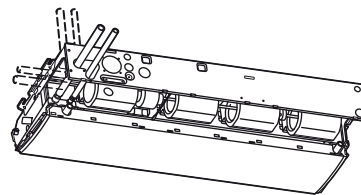

Fig. 3-19
- The positions of the refrigerant tubing connections are shown in the figure below. (The tubing can be routed in 3 directions.) (Fig. 3-19)
- \* If the drain hose is routed through the left side, refer to Fig. 3-19, and follow the procedure above to install the hose. Reattach the rubber stopper removed earlier onto the right side.